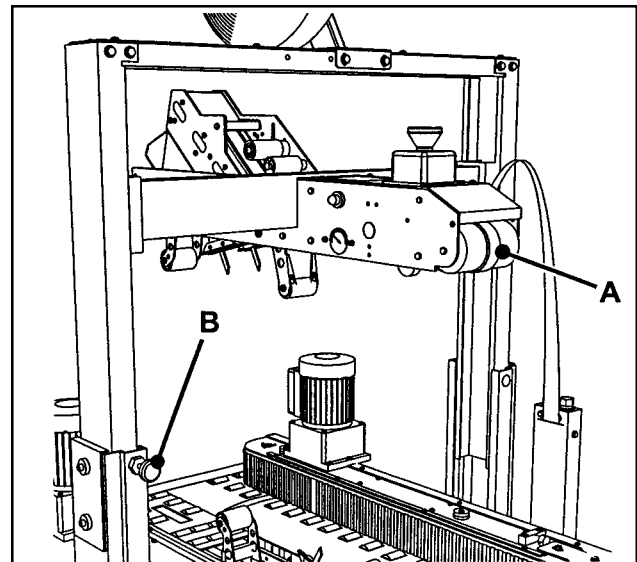

Figure 3-6 – Latching Knob, Upper Taping Head Frame
### 11 Latching Knob, Upper Taping Head Frame –Figure 3-6
3. Push and hold the latching knob (B). Figure 3-6, page 16.
4. Release switch (A). Knob (B) will lock the upper head assembly in the upper position.